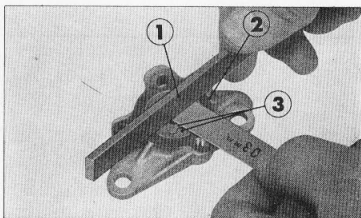

Figure 5. ① Straight edge ② Pump body ③ Rotor
3. Measuring the end clearance of the rotor. Place a straight edge across the pump housing and check the clearance of the rotor with a thickness gauge. (Fig. 5)